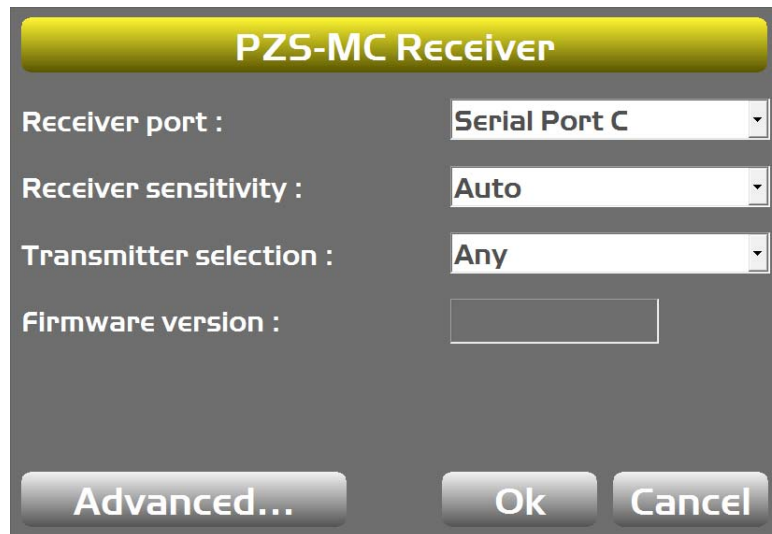

Figure 60: mmGPS Receiver Setup
1. Press the Power button on the display, then tap **Control ▶ mmGPS ▶ PZS-MC receiver**. The **PZS-MC Receiver** screen appears (Figure 60).